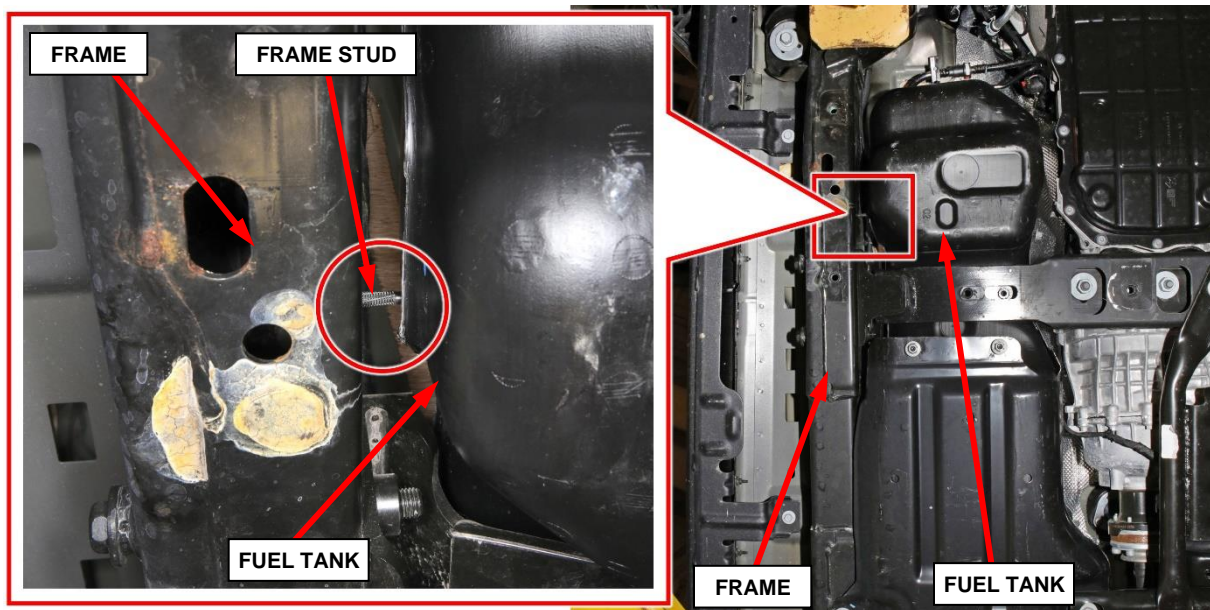

Figure 6 – Frame Stud Location – Inspect for Frame Stud
5. Visually look for a stud on the frame in the location shown in (Figure 6).